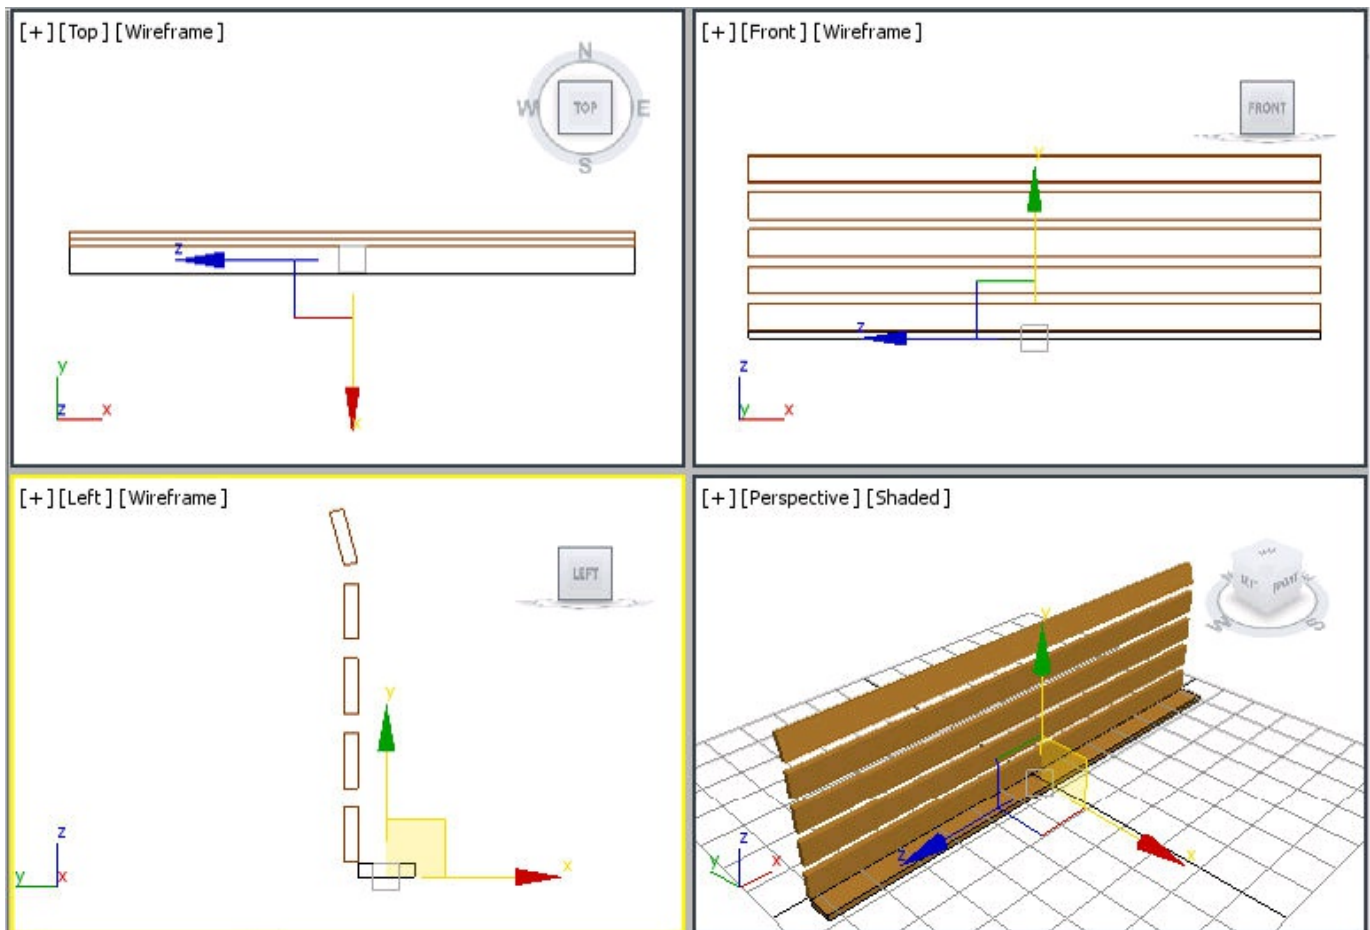

Figure 2-73 Alignment of *horizontal seat support001* in viewports
6. Choose the **Select and Move** tool from the **Main Toolbar** and align *horizontal seat support001* with *horizontal back support* in the viewports, refer to Figure 2-73.